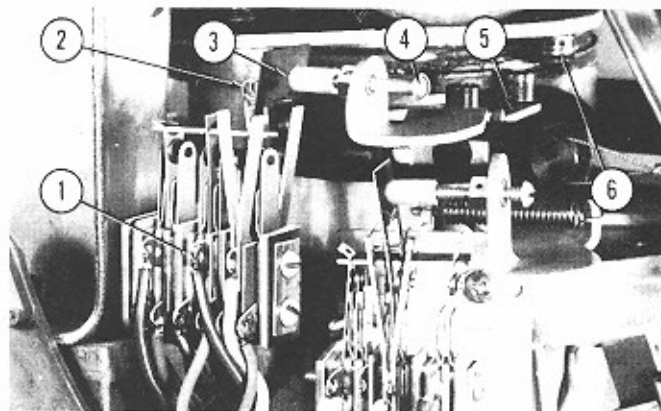

Fig. 57. TRANSFER SWITCH ADJUSTMENT
d. Transfer Switch Adjustment. (Fig. 57)
The transfer switch is mounted on the chassis casting and is located behind the selector drum and under the record changer motor at the rear of the phonograph. The selector drum has been removed to permit illustration in Figure 57. The transfer switch actuating arm has two adjusting screws, one
of which regulates the tension of the needle brush actuating cable and the other regulates the amount of throw used to actuate the transfer switch. The transfer switch actuating arm (Item 5, Fig. 57) is pivoted on the chassis casting and is operated by the lateral lobe on the main cam. An approved method for adjusting the transfer switch is described below: